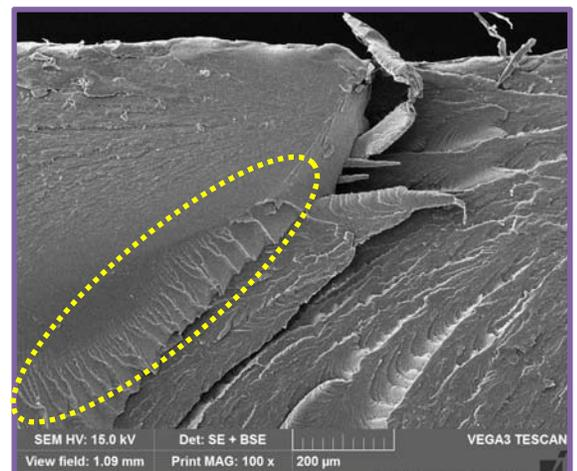

Figure 5 – Scanning electron micrograph showing crack bifurcation. River markings are also present (yellow dotted line).
**Crack Bifurcation:** Crack bifurcation is the splitting of a single propagating crack into multiple cracks (Figure 5). This is usually associated with conditions of relatively high energy input under which the crack is attempting to dissipate the energy as rapidly as possible. Crack bifurcation is generally linked to crack extension at higher speed.
**River Markings:** Associated with relatively higher crack propagation speeds, river markings are formed as the material dissipates the increasing energy of the stress (Figure 5). They are a sign of a significant increase in the crack extension rate or a change in the stress state on the part.